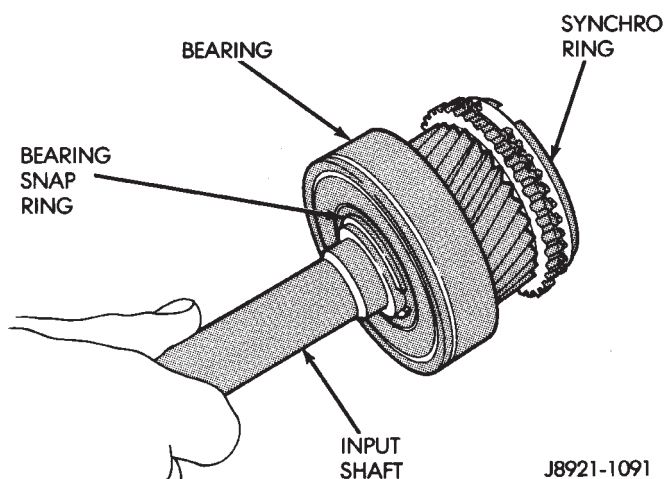

Fig. 108 Input Shaft Components
(4) Remove the fourth gear synchronizer ring from the input shaft (Fig. 108).